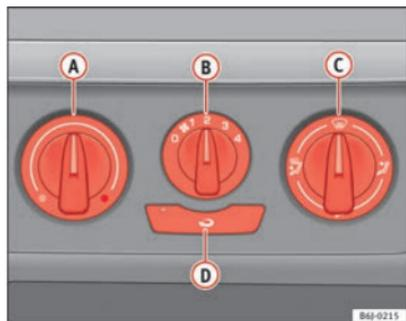

Fig. 91 Heating controls on the dash panel
- Using the controls **A** and **C** and with the switch **B** ⇒ fig. 91 you can adjust the temperature, the air distribution and the blower speed.